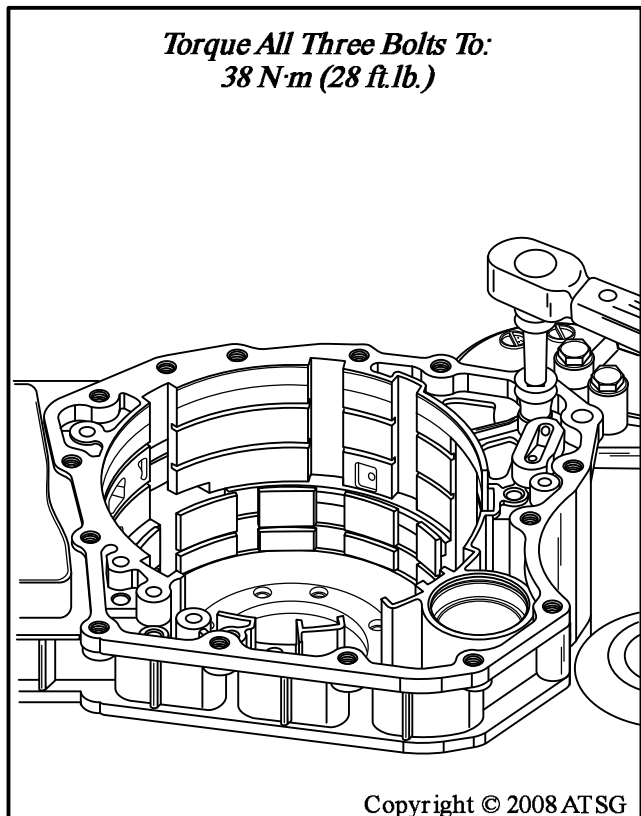

Figure 70
13. Torque the three bolts to 38 N·m (28 ft.lb.), as shown in Figure 70.